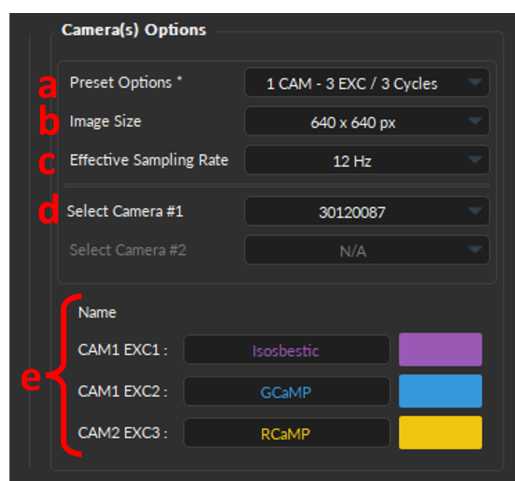

Figure 13.15: Recording Channel - Camera Options
1. The **Camera Options** (Fig. 13.15) defines which preset option to use and allows users to select the proper camera and camera parameters for the recording, such as:
- a) The **Preset Options** drop-down (Fig. 13.15, a) contains six pre-configured options which are listed in Table 13.2, along with their use cases.
- b) The **Image Size** drop-down (Fig. 13.15, b) sets the resolution (pixel x pixel) of the Image stack from which ROI(s) will be computed. There are six options, among which the lowest available *Image* size is 256 x 256, and the maximum is 1024 x 1024. Note that if the save **Image Stacks** option is enabled, using a large resolution will result in larger *.doric* data files.
- c) The **Effective Sampling Rate** drop-down (Fig. 13.15, c) sets the true frequency (in Hz) of each **EXC** since, when more than one excitation is used, the excitations are interleaved with one another, reducing the sampling rate by half (for 2 EXC) or by a third (for 3 EXC). Thus, the following **Effective Sampling Rate** are available according to the number of excitations:
- d) The **Select Camera #** drop-down (Fig. 13.15, d) sets which CMOS camera sensor will be labeled as **CAM1** and **CAM2** (if in use), by selecting the *Camera ID*.
- e) The **Name CAM# EXC#** (Fig. 13.15, e) allows users to label the specific **Camera excitations** with more intuitive name. This setting also lets users select the trace color for the data collected during the corresponding excitations.